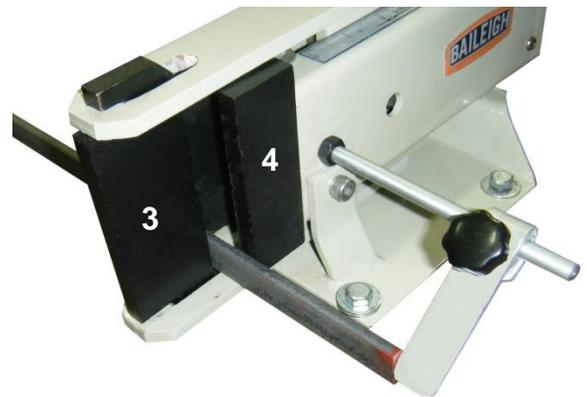

figure 3
1. Place the piece part between the Pressing Die (#3) and the Bending Die (#4) as shown in (fig. 3).